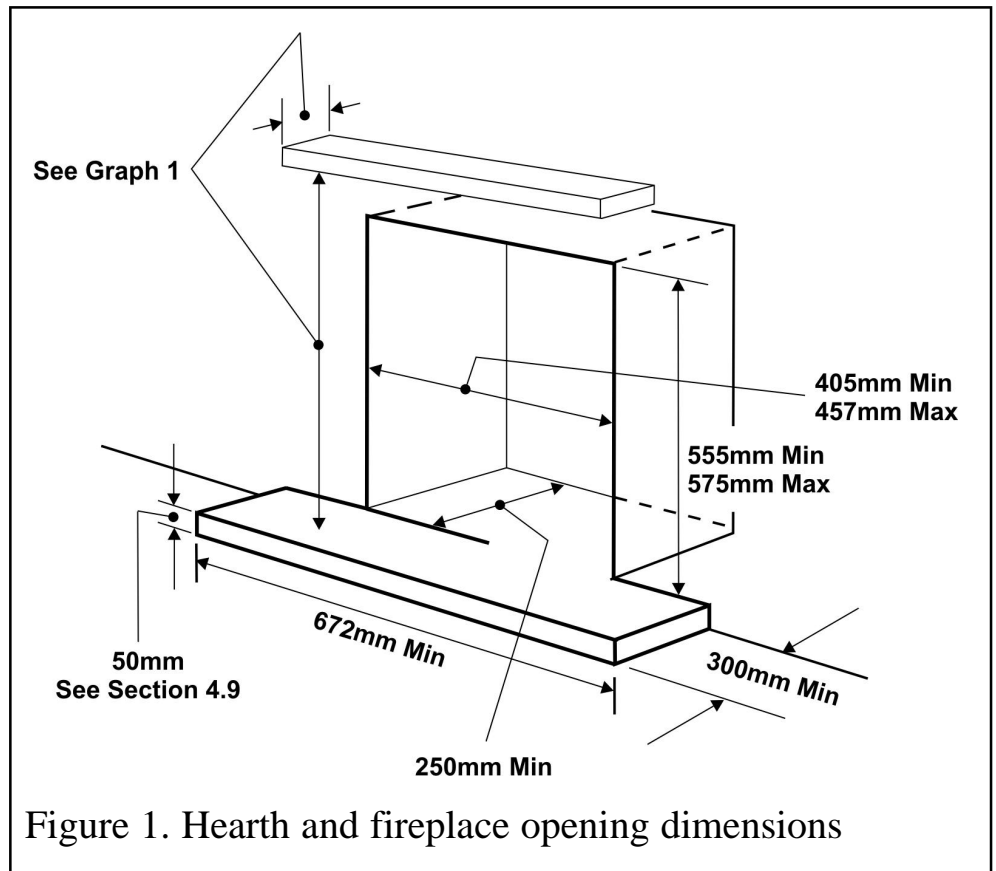

Figure 1. Hearth and fireplace opening dimensions
3.2.1 To a fireplace complete with surround and hearth as shown in figure 1 and complying with BS1251 after removal of the fireback and sufficient material behind the fireback for a debris catchment space. The required fireplace, hearth, debris catchment area and clearance dimensions are shown in figure 1.
It is recommended that a hearth should be installed as in figure 1. If a hearth is not fitted, the fire must be installed so that the distance from the base of the fireplace opening in the wall to the finished floor level is at least 85mm. The minimum shelf height will have to be taken from the base of the fireplace opening.